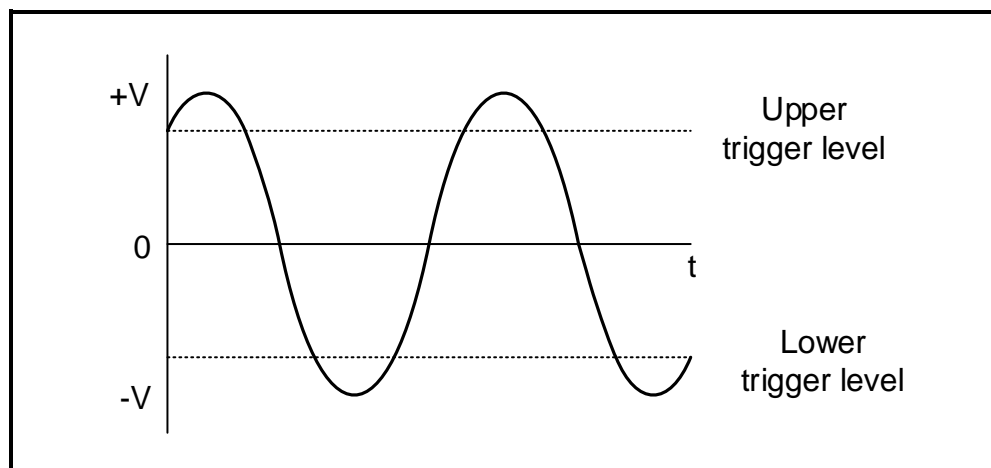

FIGURE 2.5.2: INPUT SIGNAL
2.5.2 Draw the output signal on ANSWER SHEET 2.5.2 if the signal in FIGURE 2.5.2 below is applied to the input of the Schmitt trigger.